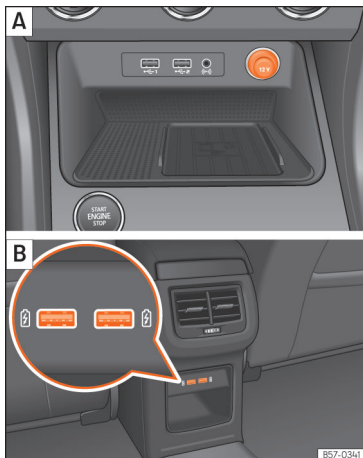

Fig. 168 **A** Centre console: front 12 volt power socket. **B** Rear of the centre console: USB sockets.
- Remove the cap located on the centre console of the socket »» **Fig. 168**, **A**.
These USB ports are located at the rear of the console, between the front seats »» **Fig. 168**, **B**. These connectors can work at a maximum power of up to 10.5 W per port.